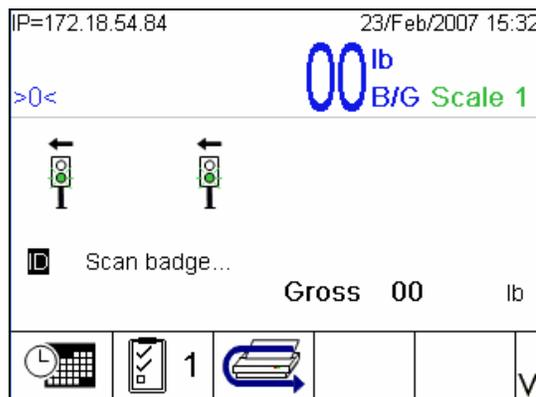

Figure 6-19: Runtime Screen with Scan badge... Prompt
- Once the Runtime screen is displayed, notice that the ID textbox has now been changed to a message (Figure 6-19). During the transaction, after the badge is scanned the ID appears on the display.